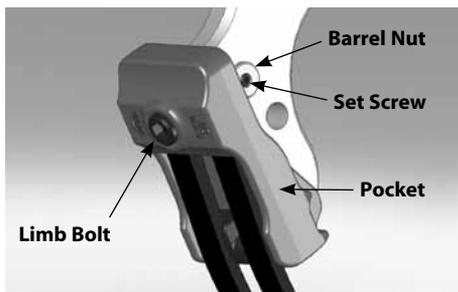

Figure 4. Nuclear Ice limb pocket
1. Remove the set screw from the barrel nut found under the pocket on the riser using a 3/32" allen wrench (**See Figure 4**).